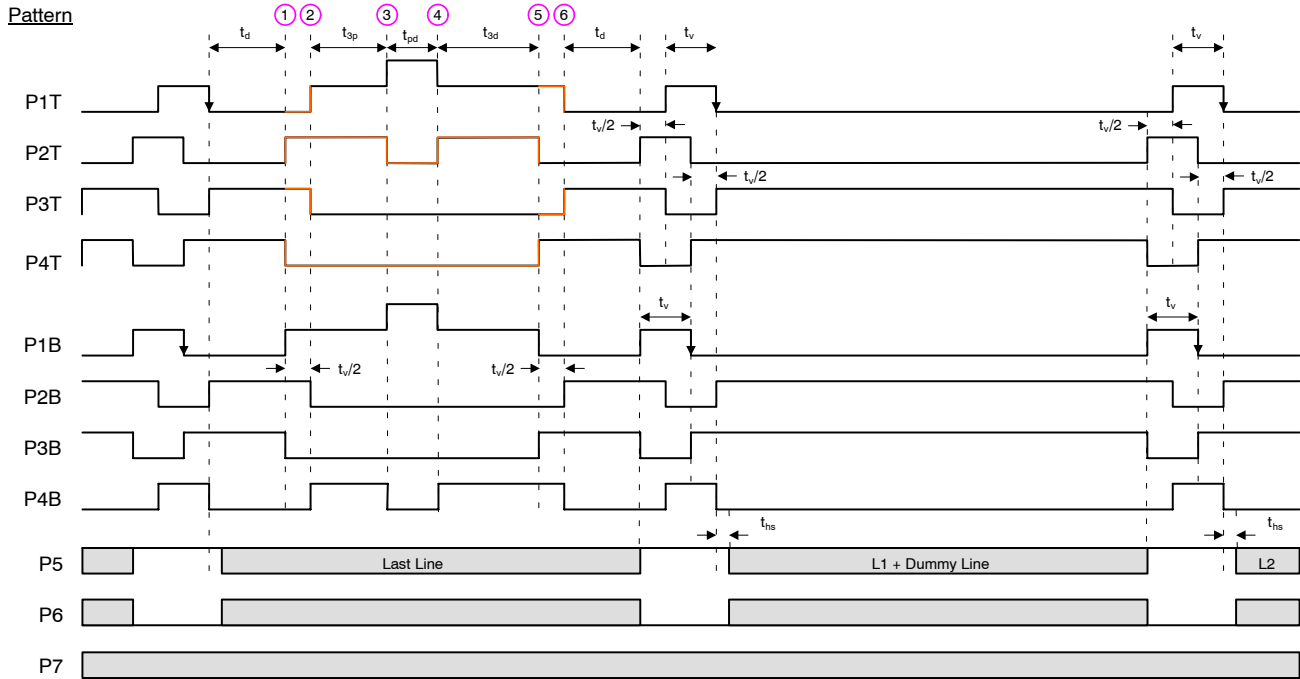
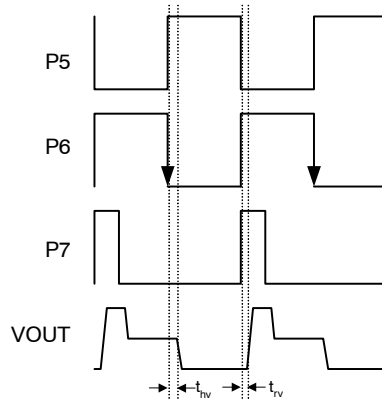
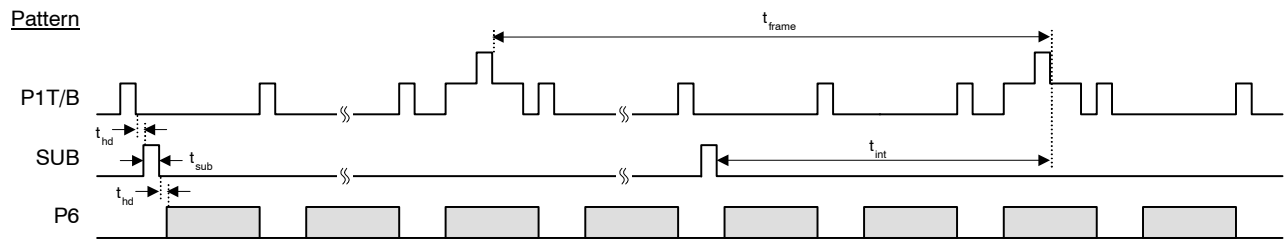

Figure 19. Photodiode Transfer Timing
Figure 21. Pixel Timing Detail
Figure 22. Frame/Electronic Shutter Timing
1. Refer to timing diagrams as shown in Figure 19, Figure 20, Figure 21, Figure 22 and Figure 23.
The timing sequence for the clocked device pins may be represented as one of seven patterns (P1–P7) as shown in the table below. The patterns are defined in Figure 19 and